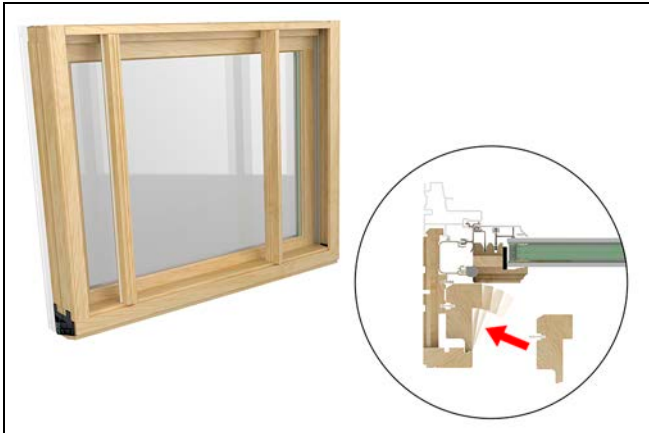

Figure 74
5. Install the side stops that barb into the jamb. Rotate the stop around the jamb liner and seat the stop with a rubber mallet. See Figure 74